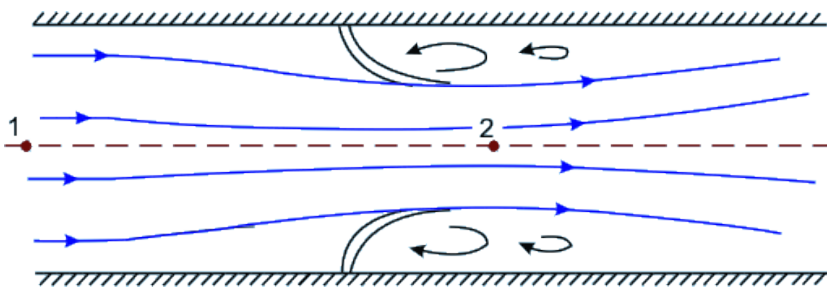

Figure 4: A flow nozzle.
- The flow nozzle as shown in Fig.4 is essentially a Venturimeter with the divergent part omitted. Therefore the basic equations for calculation of flow rate are the same as those for a Venturimeter.